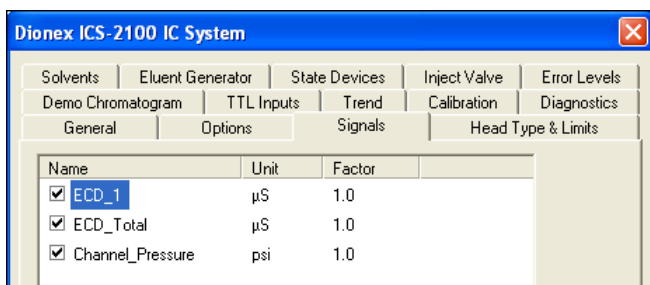

Figure 99. Pump Pressure Channel Enabled
- c. Verify that the **Channel_Pressure** check box is selected (see Figure 99).